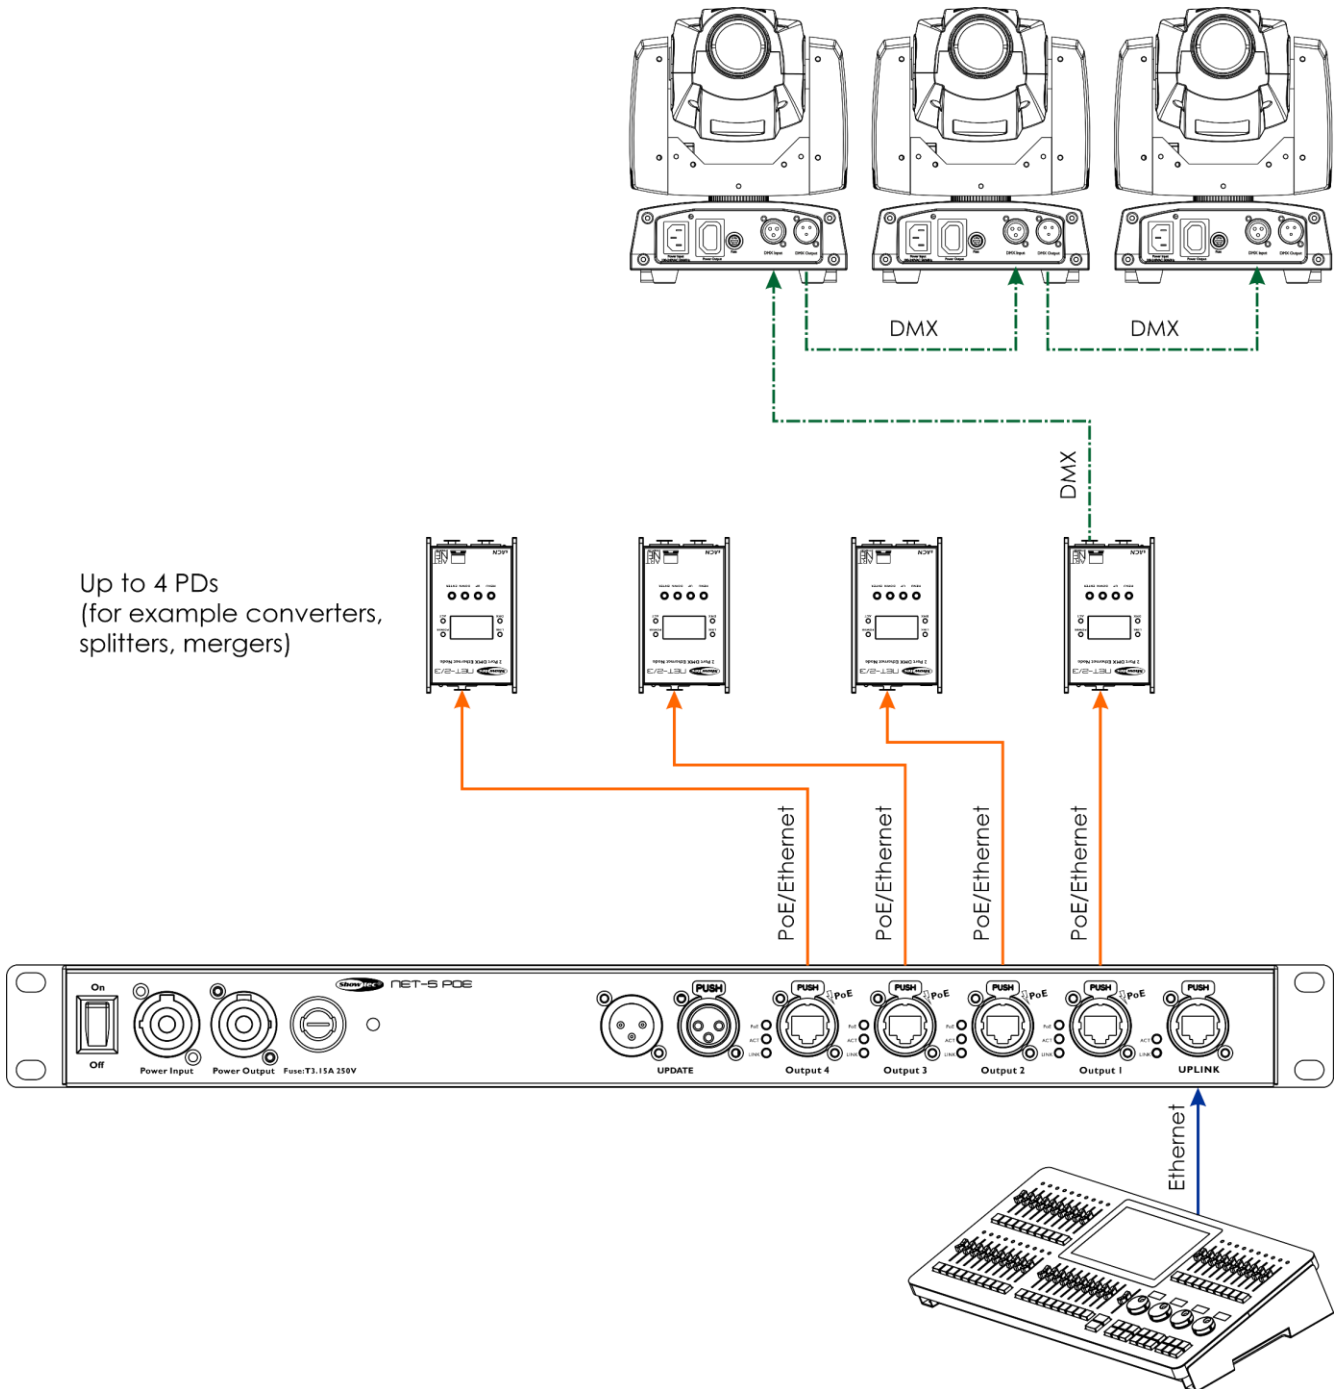

Fig. 08
- 02) Connect up to 4 PDs to the output PoE RJ45 connectors of the device with a CAT-5/CAT-5E/CAT-6 cable, as shown in Fig. 08. Start with Output 1 and continue with Output 2, etc.